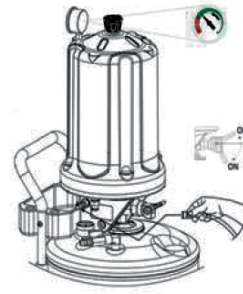

FIG.1
2. Make sure all valves are close. (FIG.1) connect air source with air inlet(No.9TVP32HC-0801), turn on air valve for vacuum extraction, when finger reaching to the MAX area on the vacuum gauge, turn off air inlet valve.
2. Make sure all valves are close. (FIG.1) connect air source with air inlet(No.9TVP32HC-0801), turn on air valve for vacuum extraction, When finger reaching to the MAX area on the vacuum gauge, turn off air inlet valve.